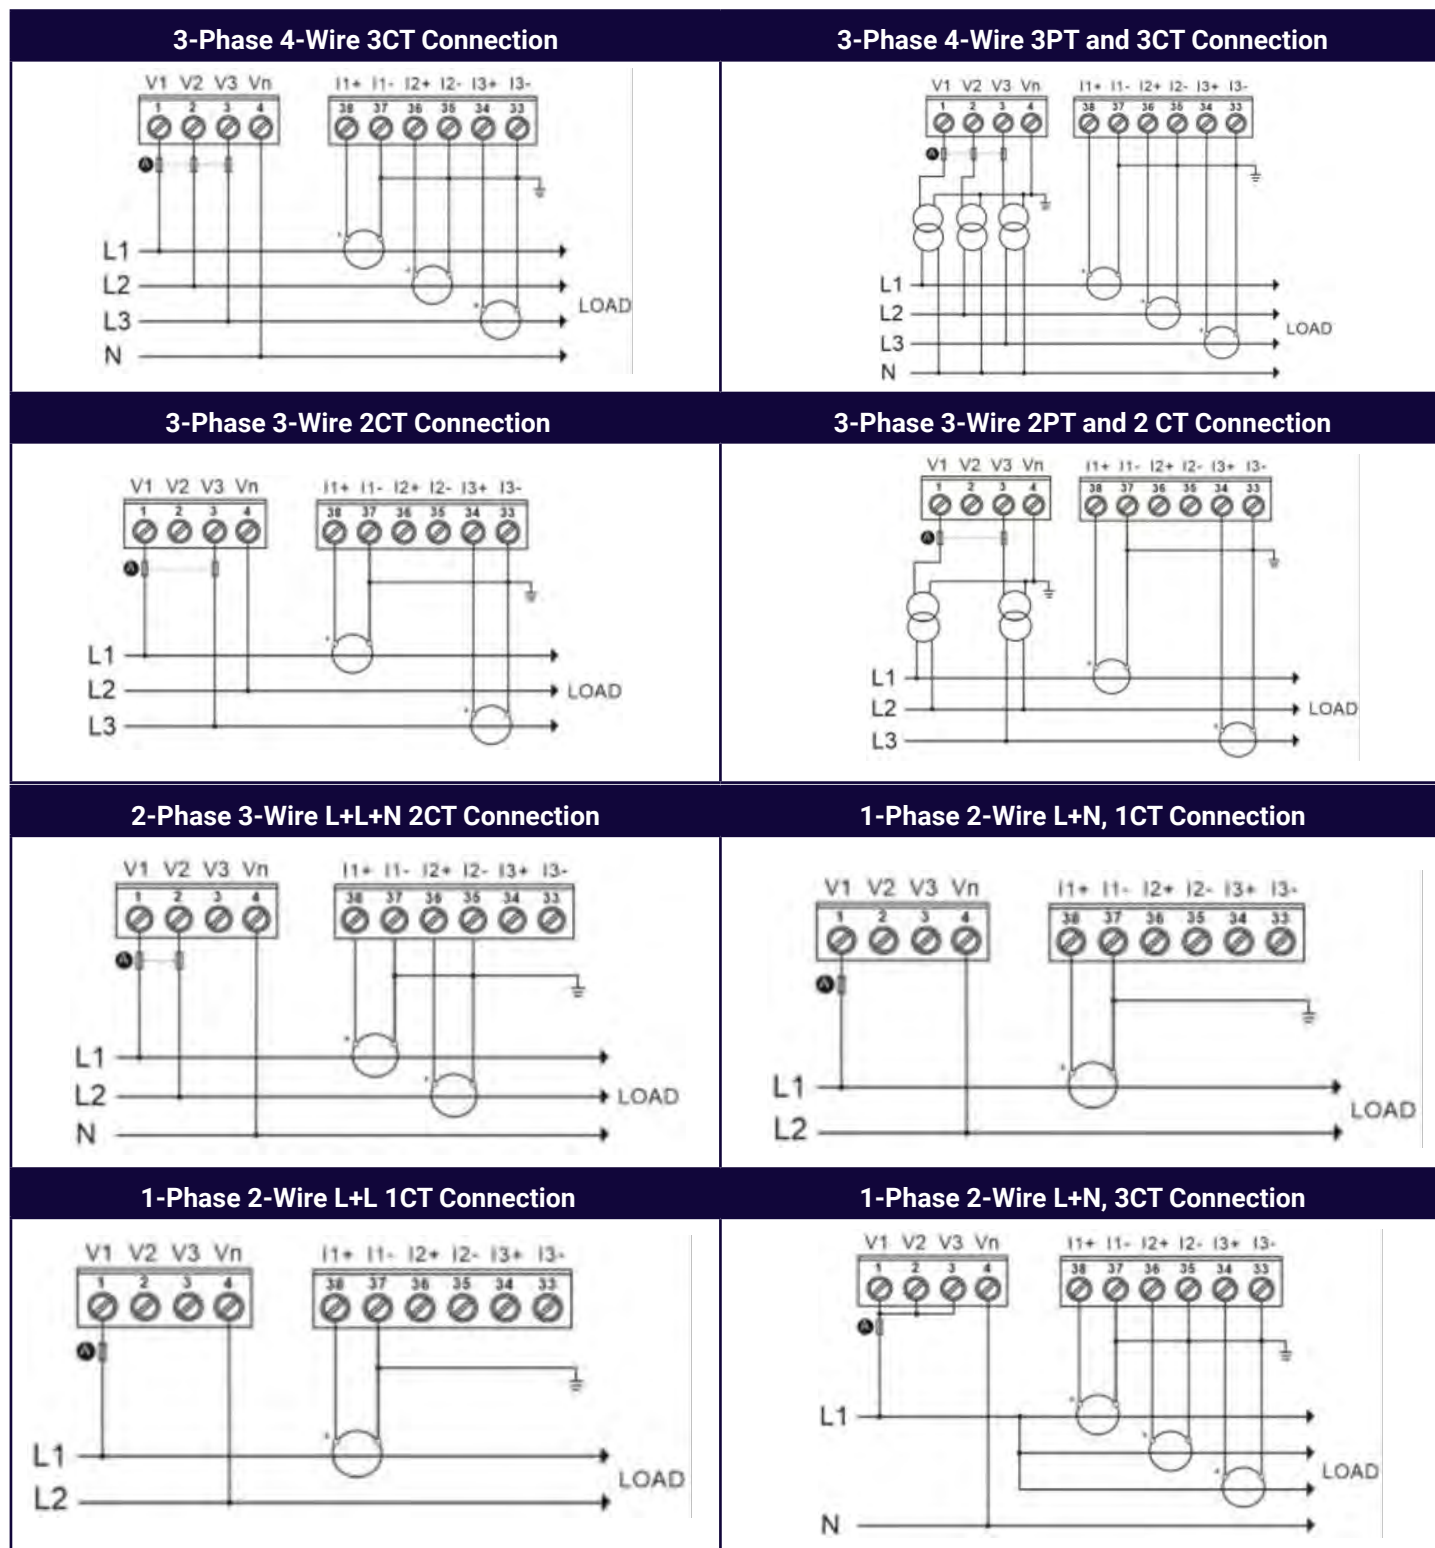

Figure 1: Wiring Diagrams
4. Connect the meter according to Figure 1.